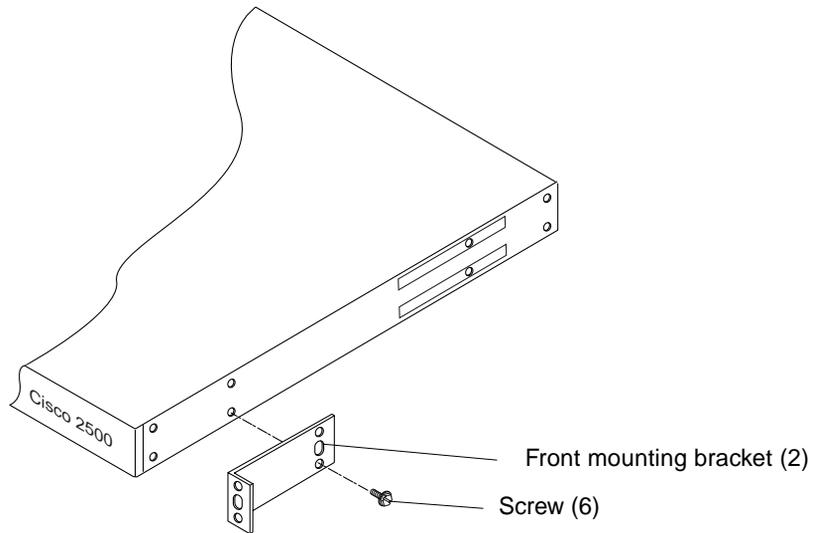

FIGURE 9-3 Installing the Access Server Front Bracket
2. Using a No. 2 Phillips screwdriver, install the four screws securing each front mounting bracket to the access server (FIGURE 9-3).